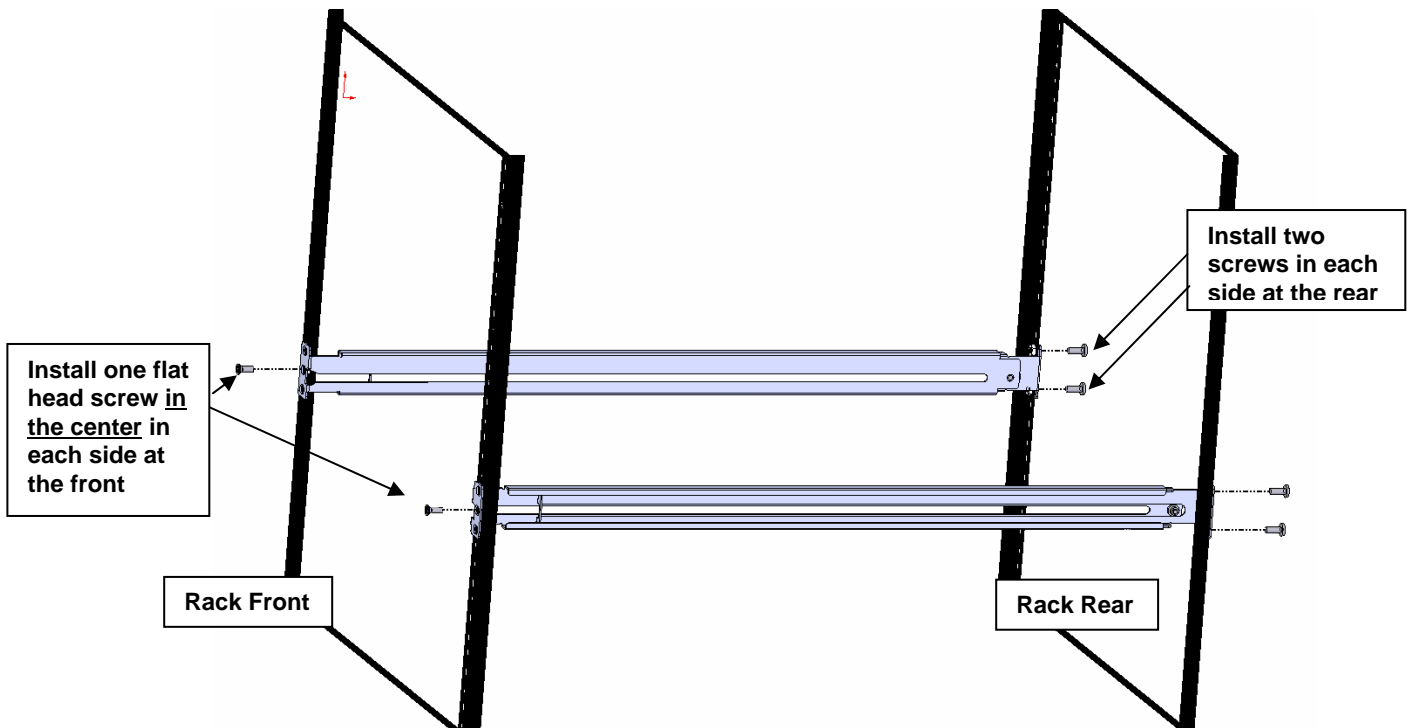

Figure 3- Install the rail assemblies
1. Connect each CPU to the UNIMUX switch using a USB-DHEXT-xx-MM (Required-not supplied) as shown in Fig. 3.